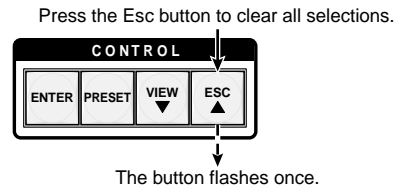

Figure 3-29 — Clear all selections
1. Press and release the Esc button (figure 3-29).